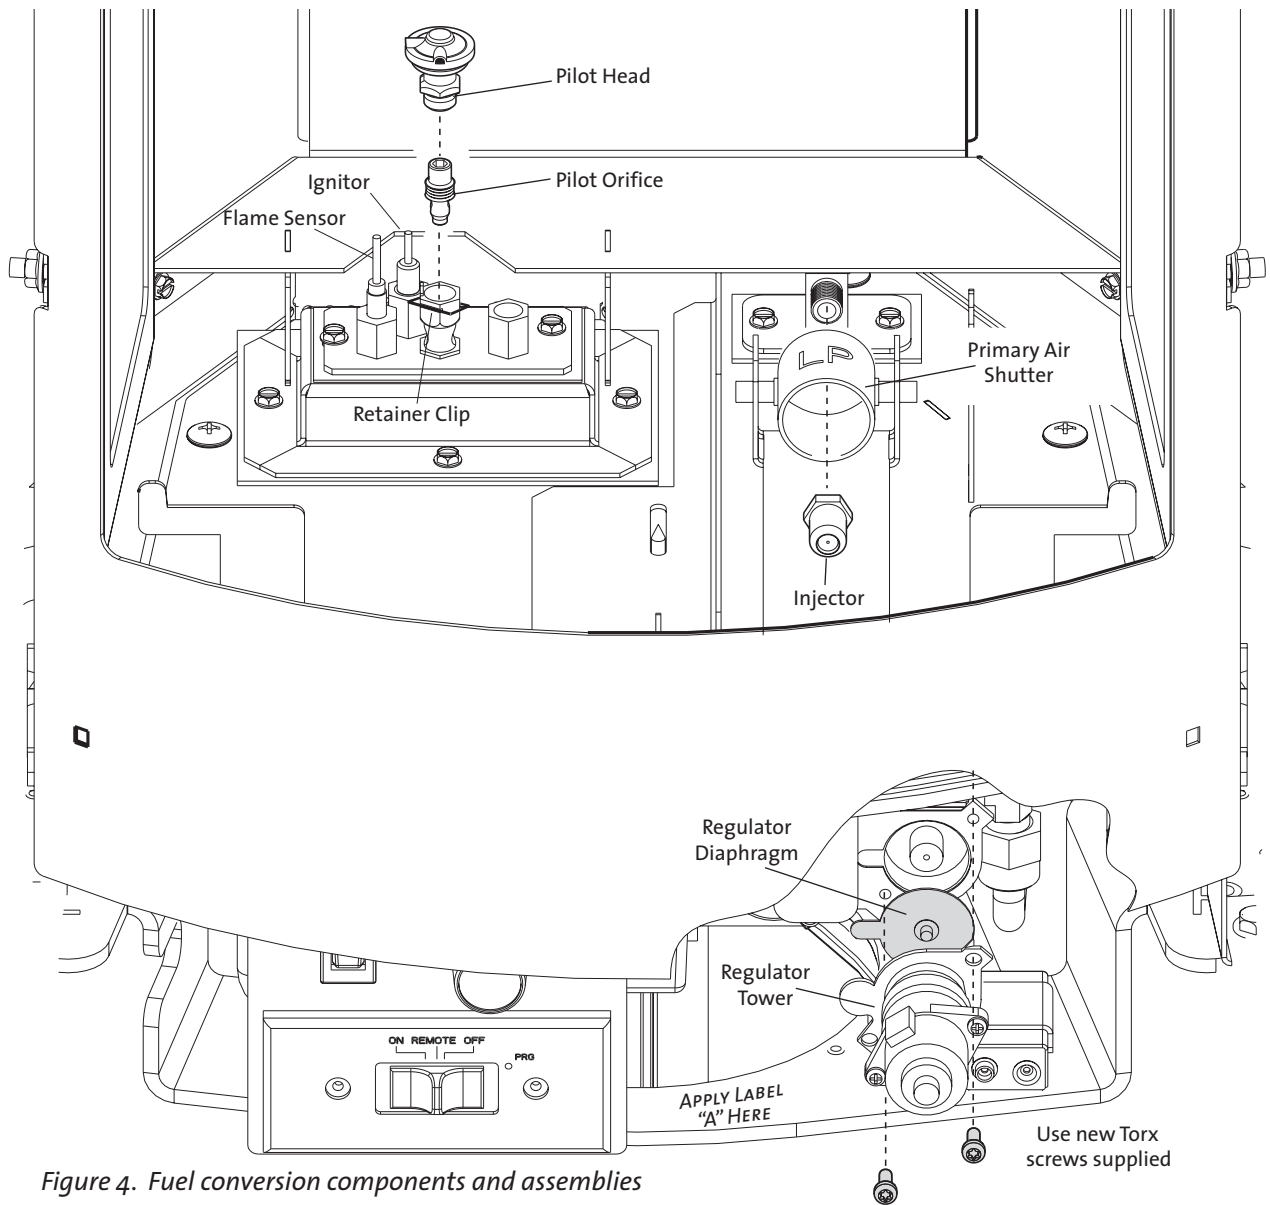

Figure 4. Fuel conversion components and assemblies
5. Locate the main burner injector. See fig. 4. Slide the Air Shutter out of the way and use a 1/2" open end wrench or deep-well socket to remove the burner orifice from the brass orifice holder. Replace with the orifice supplied in the kit. Tighten securely.
7. Change the Pilot Orifice. Pull the Pilot Hood off of its base. It will snap by the retainer clip shown in Fig. 4. Using a 4 mm allen wrench, unscrew the pilot orifice. Replace it with the orifice from the kit. Be sure the new orifice is tightly secured to prevent by-pass leakage.
9. Replace the variable regulator. Using a Torx T-20 screwdriver, remove the two specialty screws from the regulator tower on the front of the valve. Note: To help identify which screws to remove, refer to the new regulator in the kit. See fig. 4.